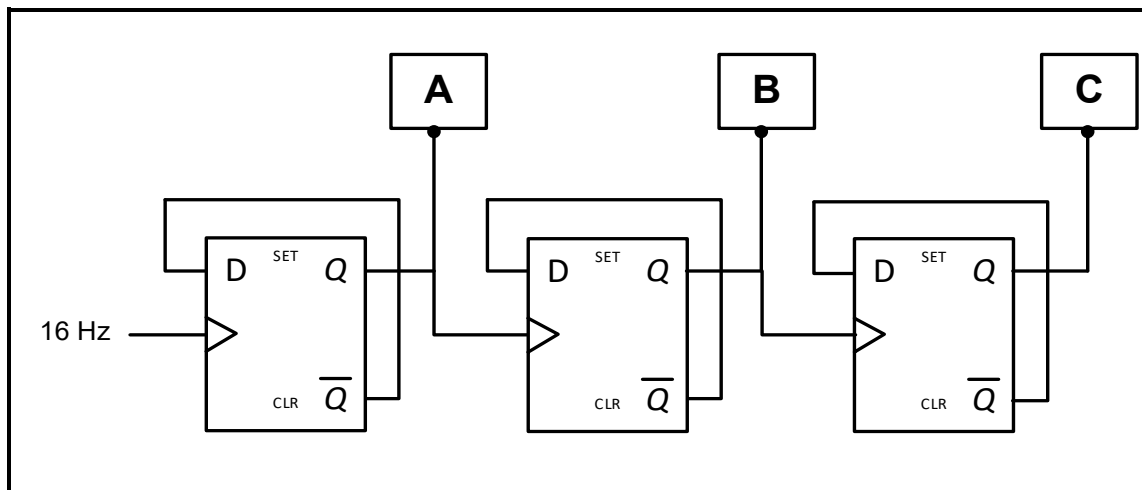

FIGURE 5.6: FREQUENCY DIVIDER
- 5.6 Refer to the frequency divider in FIGURE 5.6 below and indicate the frequencies at **A**, **B** and **C**.